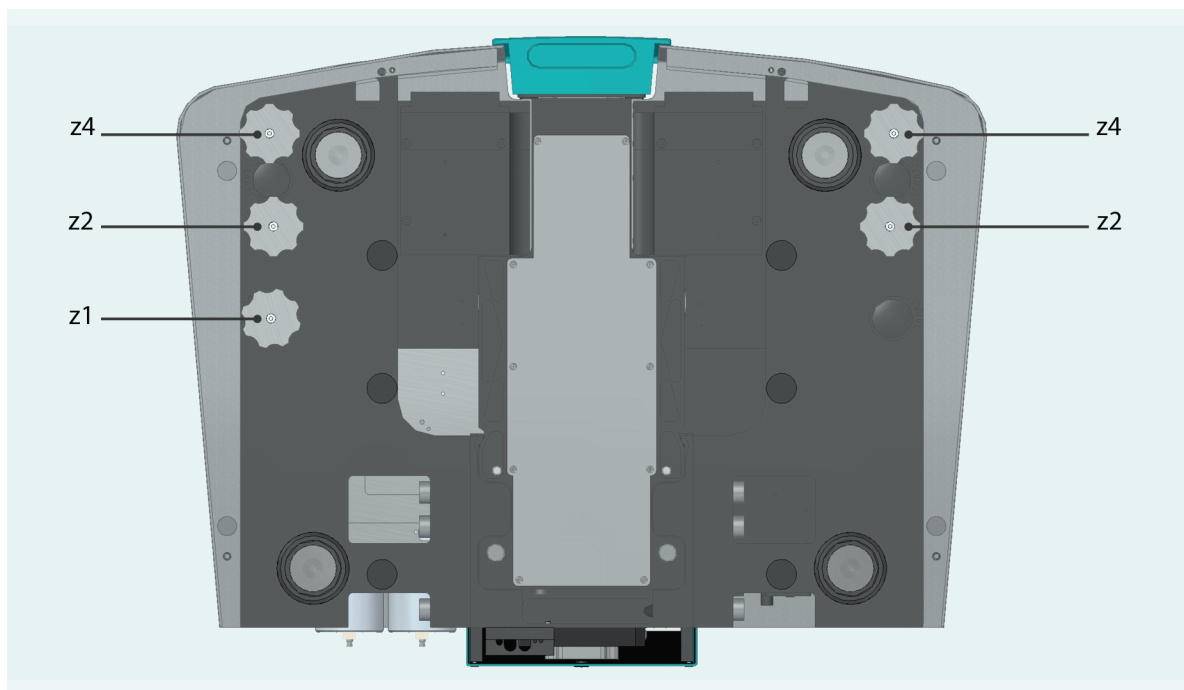

Figure 7.1: Bottom view of the instrument with the positions of the adjustable precision screws
- Adjust the height of the lateral light sheets. Start with the rear light sheet by using the screw z2 below the system. See **Figure 7.1**.
- 4 Adjust the height by using the screw z1. See **Figure 7.1**. If it is not possible to make only one light sheet pass the pinhole, see **Adjusting the horizontal focus on page 31**.
- 2 Adjust the height of the lateral light sheets. Start with the rear light sheet by using the screw z2 below the instrument. See **Figure 7.1**.